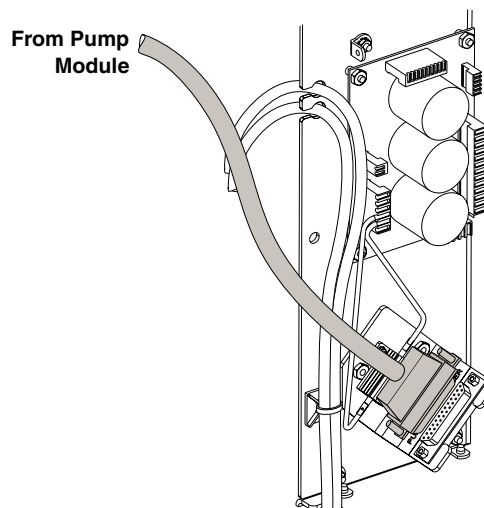

Figure 2-5 Pump controller connection
4. Connect the beige 25-pin connector from the pump module to the column module connector labeled Pump Controller. Refer to Figure 2-5.